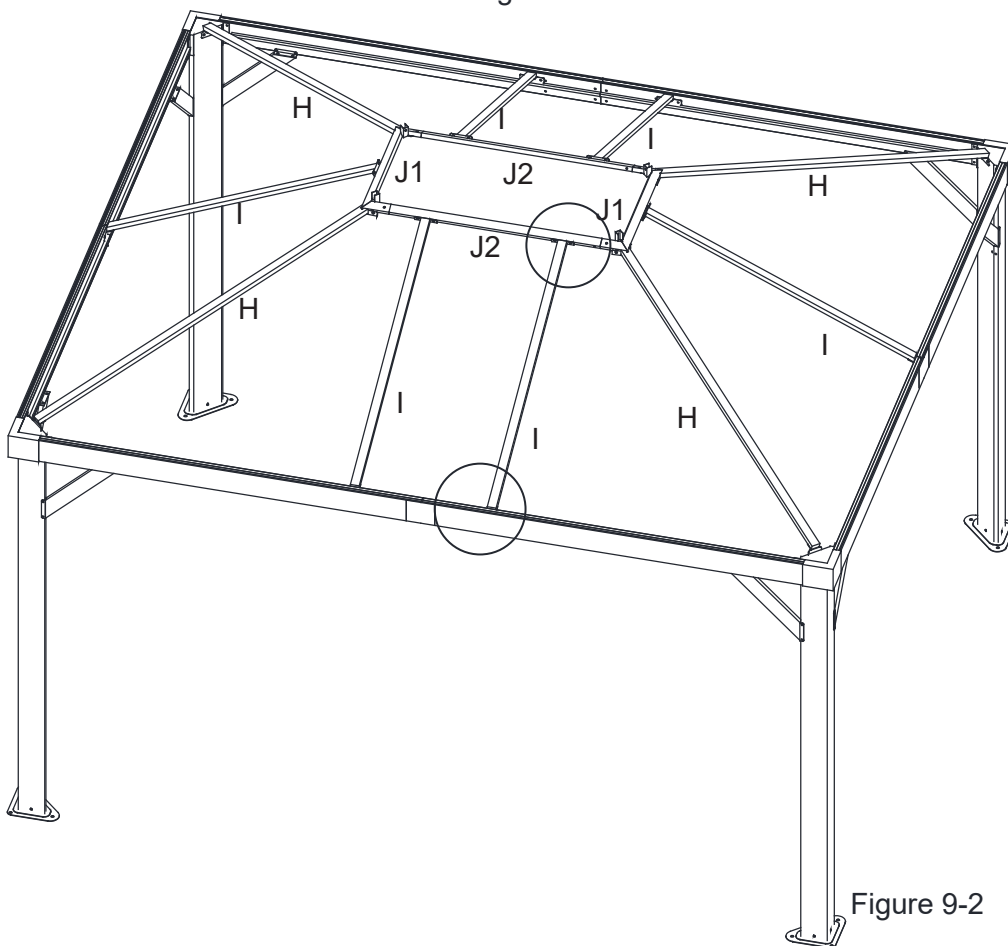

Figure 9-2
9.2 Repeat for opposite sides. Tighten All Bolts. See Figure 9-2.